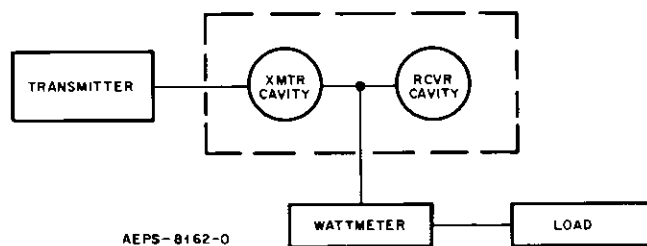

Figure 7. Method 2 Transmitter Branch Pass Test Set-Up
- Step 3. Connect the equipment as shown in Figure 7.
Step 1. Using the Recommended Test Equipment given in paragraph 5.2.1, connect the equipment as shown in Figure 7.